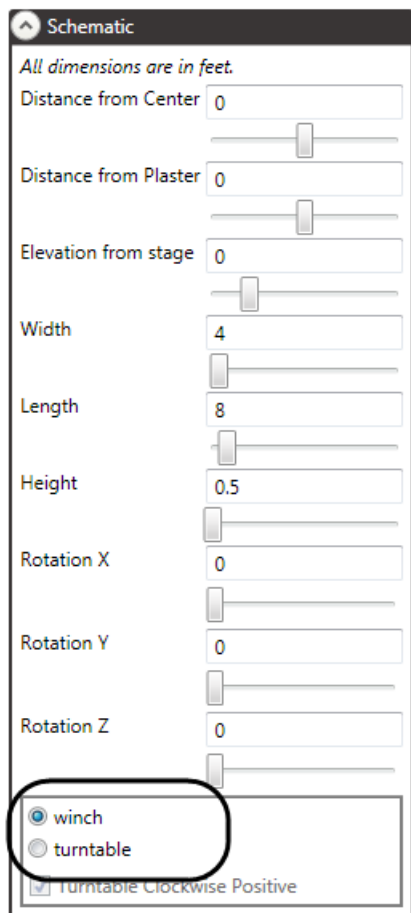

Figure 190
2. In the **Motor Editing Pane**, scroll until you find the **Schematic** section and make sure that **Winch** is selected at the bottom (Figure 190).